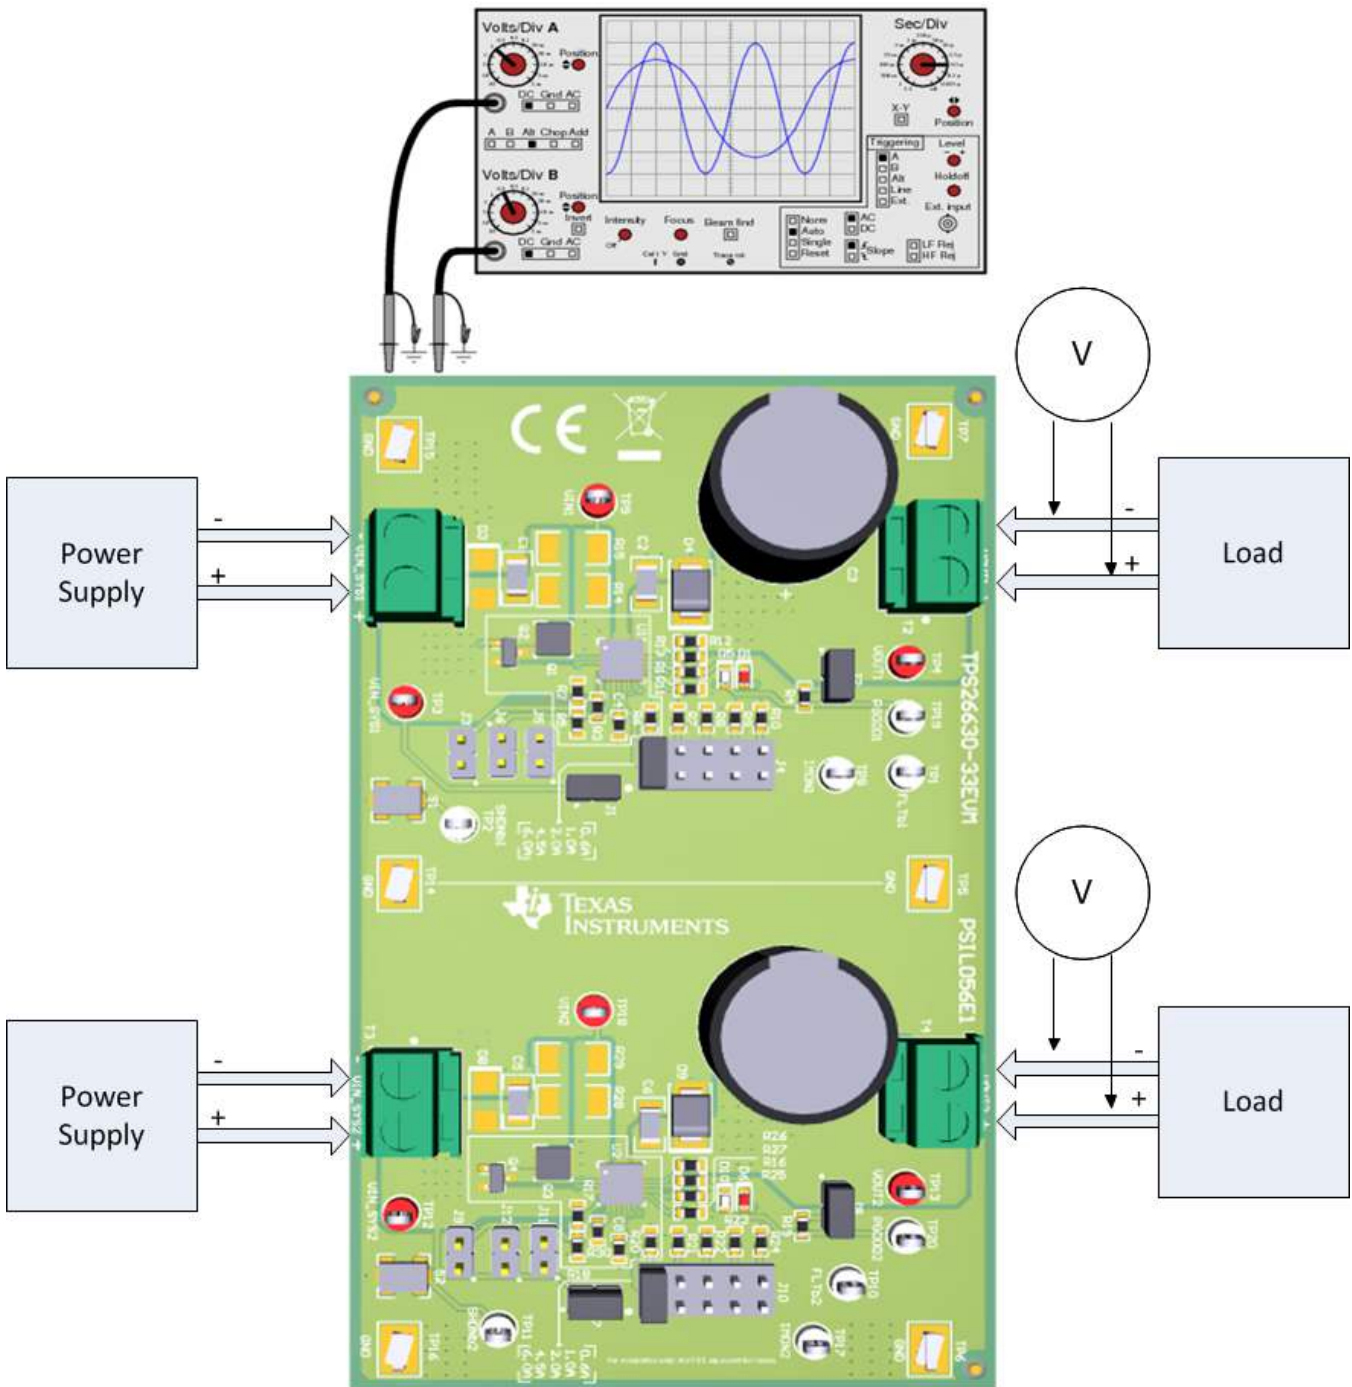

Figure 1. EVM Test Setup
The TPS26630-33EVM enables full evaluation of the TPS2663x devices. This EVM has two independent channels (CH1 and CH2) where two devices can be evaluated together. CH1 is configured to test OVP cut-off versions TPS26630, TPS26631 and CH2 is configured to test OV clamp and power limit versions TPS26632 and TPS26633. Input power is applied at T1 (CH1) and T3 (CH2) while T2 (CH1) and T4 (CH2) provide the output connections to the load respectively. Refer to the schematic in Figure 11 and EVM test setup in Figure 1. S1 and S2 allow U1 and U2 to be reset or disabled and Jumper J4 and J10 allow current limit setting to be changed.
Figure 1 shows the typical test setup for the TPS26630-33EVM. Connect T1/T3 to the power supply and T2/T4 to the load.
3. Disable the power supply, load and hook up the TPS26630-33EVM assembly as shown in Figure 1